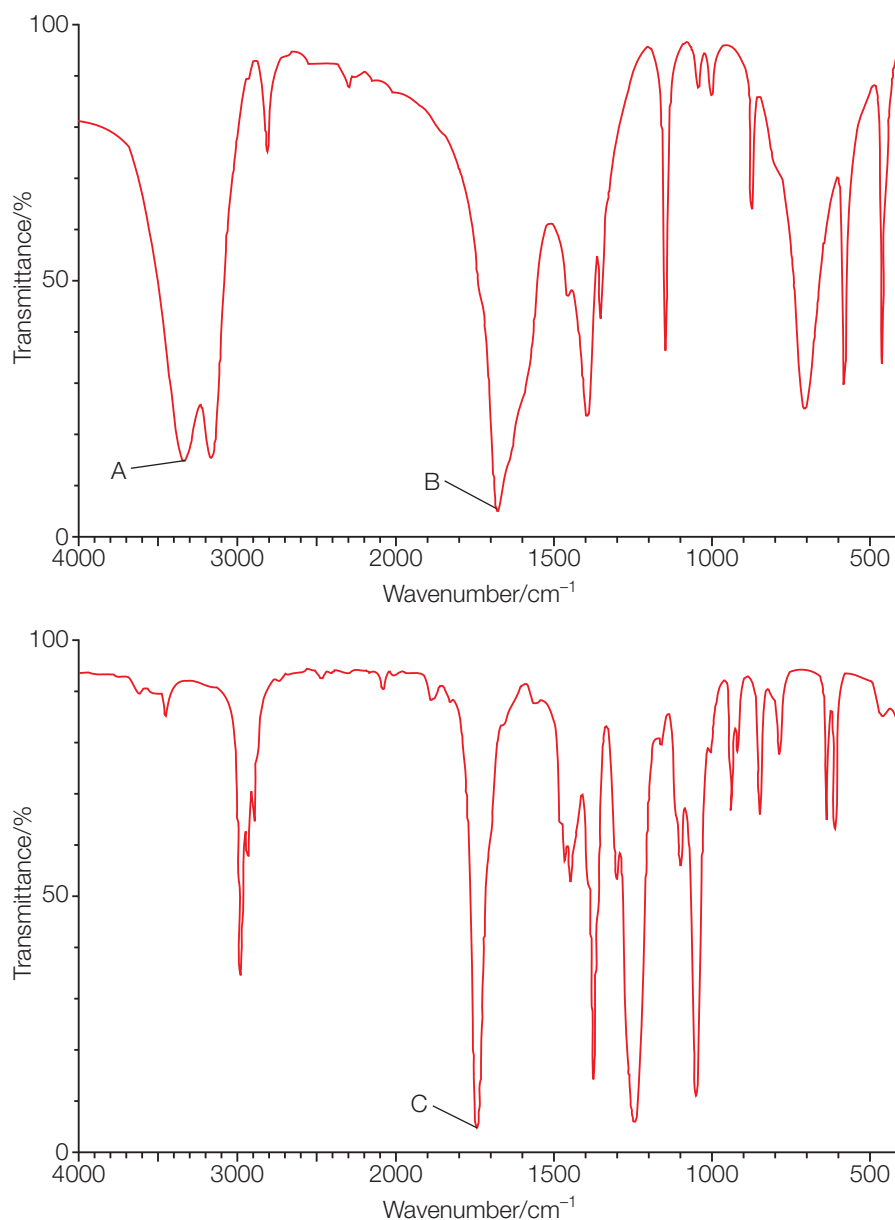

Figure 9.23 ►
- 24 Figure 9.23 shows the infrared spectra of ethyl ethanoate and ethanamide. Use the Data sheet: 'Characteristic IR absorptions in organic molecules' from the Dynamic Learning Student website to work out: